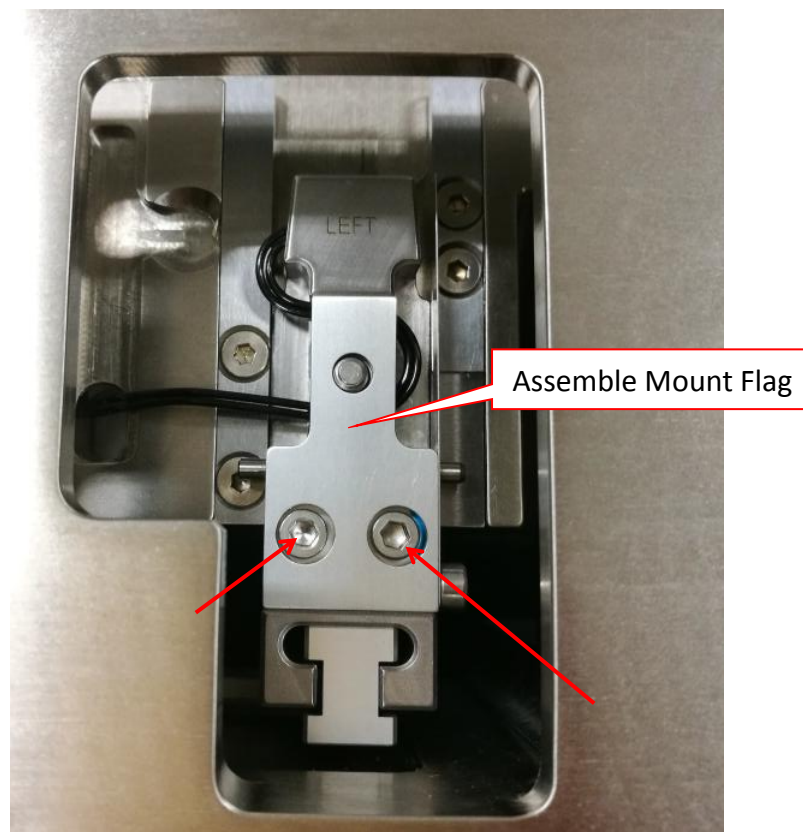

Figure 11 Mount Flag Assembly
4. Assemble Mount Flag & tighten 2 x Screws (M3 x 4) as shown in Figure 11.